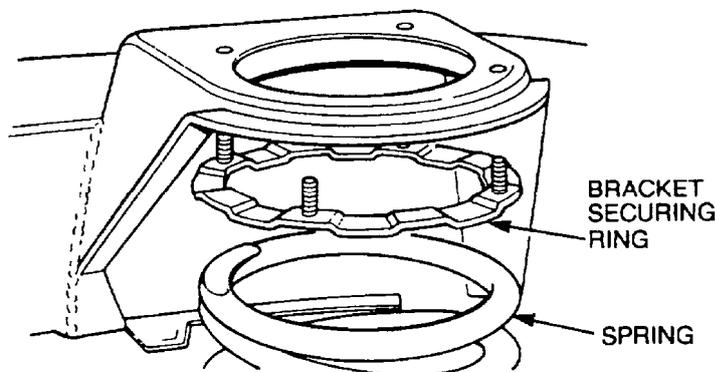

Figure 80 Front Spring Removal
- l. Lower the axle on the side the spring is to be removed, then remove the spring and bracket securing ring (Figure 80).